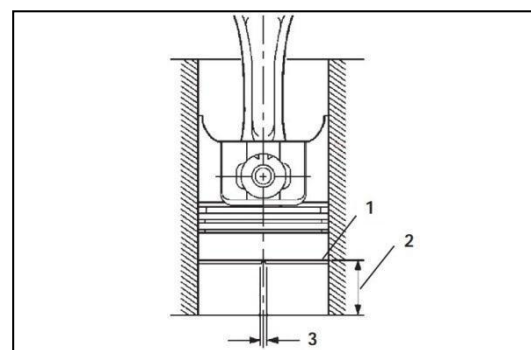

Figure 119
9. To measure piston ring end gap, insert each compression piston ring (Figure 119, 1), one at a time, into the cylinder. Use a piston with the piston rings removed to slide the ring into the cylinder bore until it is approximately 1.18 in. (30 mm) (Figure 119, 2) from the bottom of the bore. Remove the piston. Measure the end gap (Figure 119, 3) of each piston ring. Record the measurements. See Piston Ring mechanical specifications chart.